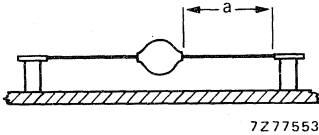

Fig. 3 Mounting method 2.
2. Thermal resistance from junction to ambient when mounted to solder tags at a lead length $a = 10$ mm; Fig. 3